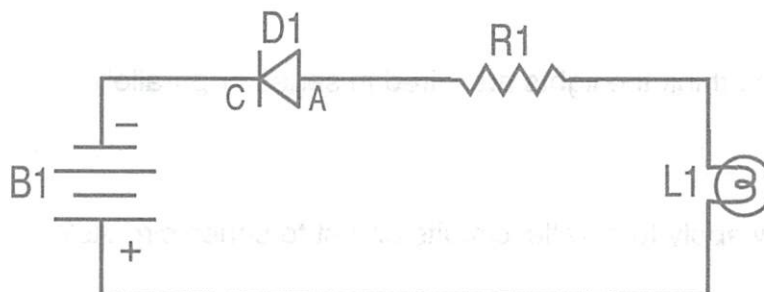

FIG. 1 - Diode Circuit
1. Build the circuit shown in Fig. 1 by carefully wiring the universal breadboard as shown in Fig. 2. Be careful when connecting the battery snap (observe polarity) and when connecting the diode. The diode must be installed with the cathode (marked by a band) in the direction shown.